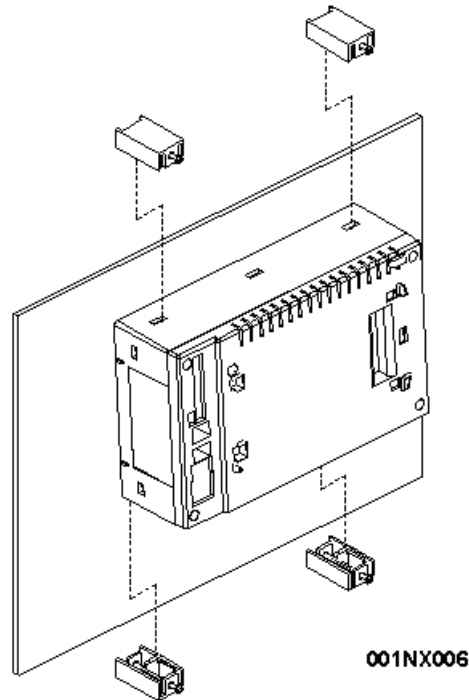

Figure 5 – Back View of NX OCS with 4 Standard Mounting Clips
2. Cut the host panel. Per the specifications of Figure 5 and Figure 5 – carefully prepare the panel cutout. Make sure the corners of the cutout are square and free from burrs. (Panel cut-outs and dimensions are found **Chapter 3**.)